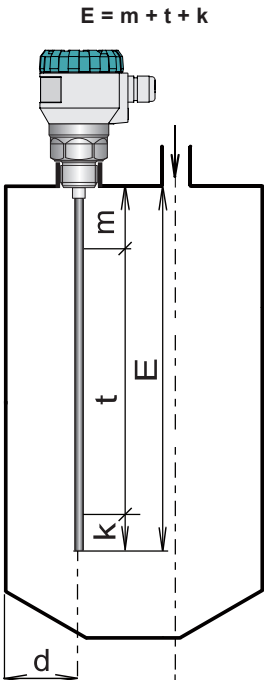

Fig. 1: Level meter installation with the rod electrode
- Otherwise, the level meter install as far as possible from the walls, to the middle between the wall and the vertical inlet, see Fig. 1. a 2.